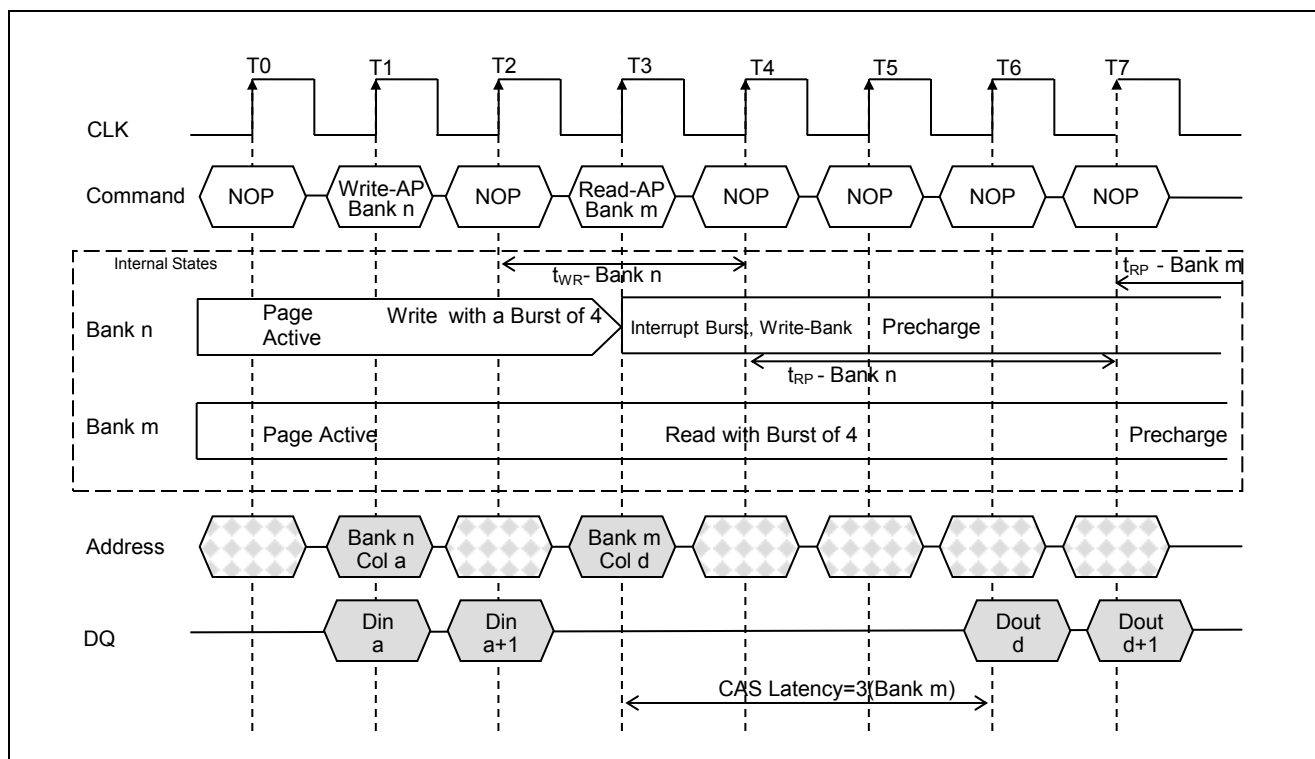

**Figure 27. Read with Auto Precharge Interrupted by a Read(CAS Latency =3)**
1. Interrupted by a Read(with or without auto precharge): A read to bank m will interrupt a Read on bank n, CAS latency later. The precharge to bank n will begin when the Read to bank m is registered. (Figure 27. )